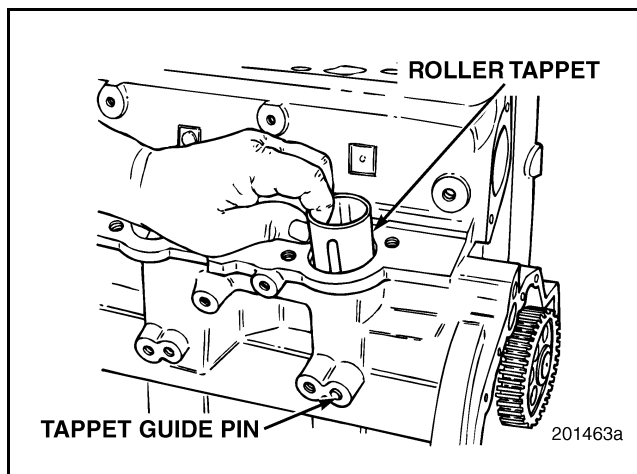

Figure 159 — Tappet Removal
6. Remove the roller tappet from the EUP bore by hand (Figure 159). Do not use a tool, as it could damage the bore. Place the roller tappet in a clean area and cover it to prevent the entry of dirt and other contaminants.